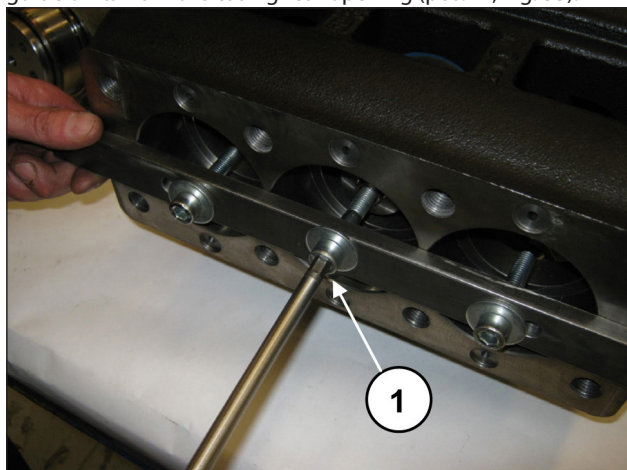
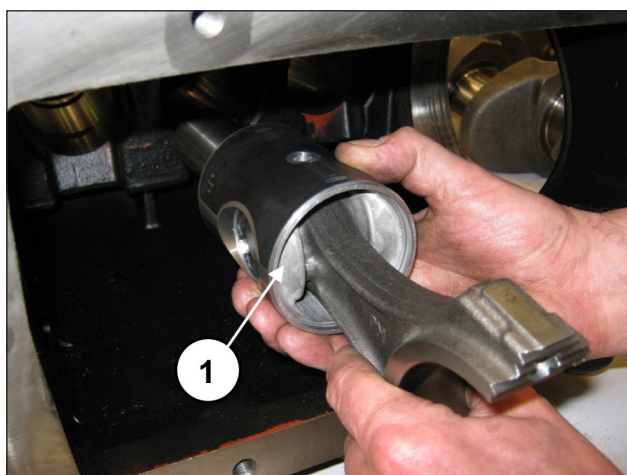

Fig. 32
Fig. 33
Unscrew the screws with tool code 27566200 to unlock the conrods (pos. ①, Fig. 32) and then extract the conrod-piston guide units from the casing rear opening (pos. ①, Fig. 33).
Separate the caps from the half-conrods. Proper coupling can be verified by the numbering on the side (pos. ①, Fig. 42). After having checked casing cleaning, proceed with assembly of the half conrod-piston guide unit inside casing rods (pos. ①, Fig. 33).
Block the three units with the use of special tool code 27566200 (pos. ①, Fig. 32).
Remove the tool for blocking the conrods code 27566200 (pos. ①, Fig. 32).